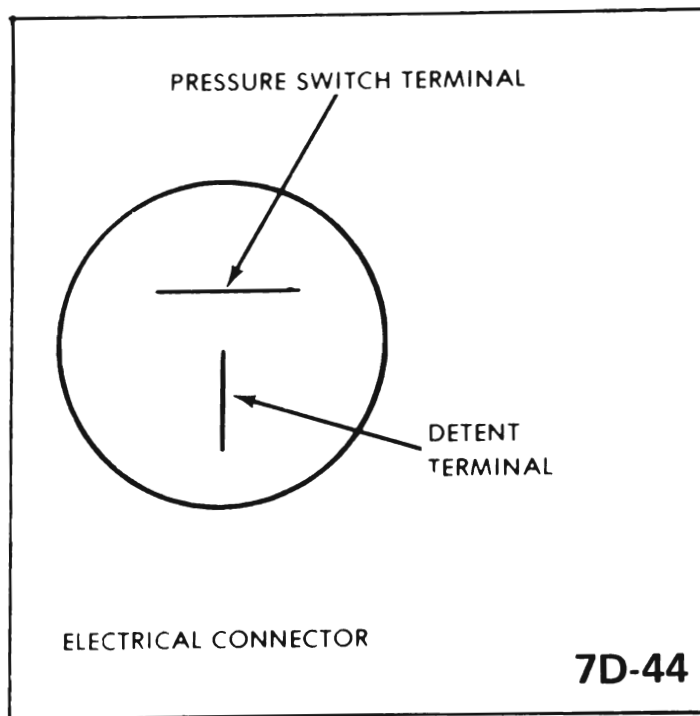

Figure 7D-44
1. Disconnect electrical wire harness from transmission electrical connector. If using a continuity tester which has a self-contained power source, connect one tester lead to pressure switch terminal of transmission connector (See Figure 7D-44), and connect other lead to ground. Tester should show current flowing through the switch (switch closed).